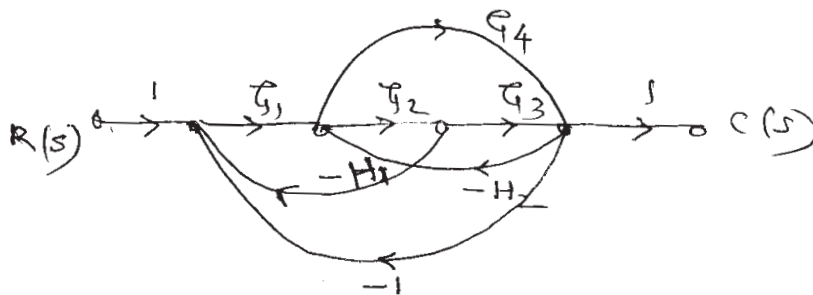

fig 2a
- Q2)** a) For the signal flow graph as shown in fig.2a find $\frac{C(s)}{R(s)}$ using Mason's gain formula. [8]